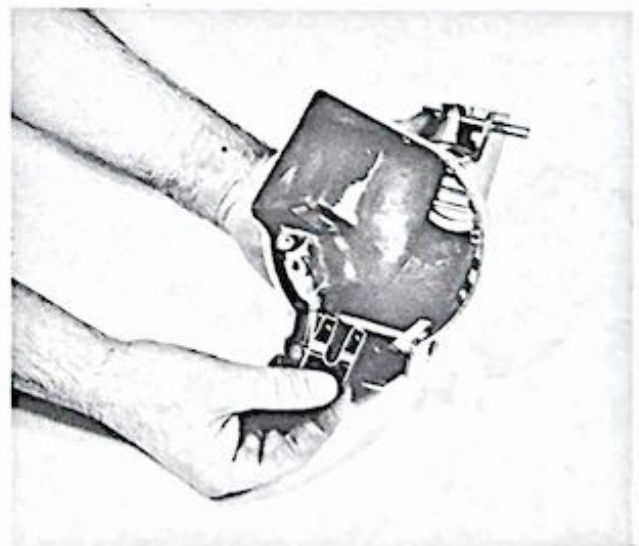

Figure 1-64. Installing handle lock spring
(3) Move the handle lock button (1) to align with the hole and remove it from the housing shell (3); slide the handle lock shaft (2) from the hole of the housing shell.
(4) Replace any broken or defective parts.
(5) Insert the handle lock shaft (2) into the hole of the housing shell so that the flat end is toward the opening for the foot switch button and the small hole in the shaft is toward the opening for the handle lock button.
(6) Install the handle lock button (1) through the top of the housing shell so that the pin engages the hole of the handle lock shaft. With the dimpled depressions toward the housing shell as shown in fig. 1-64, slide the handle lock spring (4, fig. 1-4) through the lock button to retain it.
(7) Check that the handle lock shaft moves without excessive binding and that it extends out of the housing shell on the side toward the foot switch button hole.
(8) Install the housing shell and foot switch button as directed in paragraph 1-21m and n.